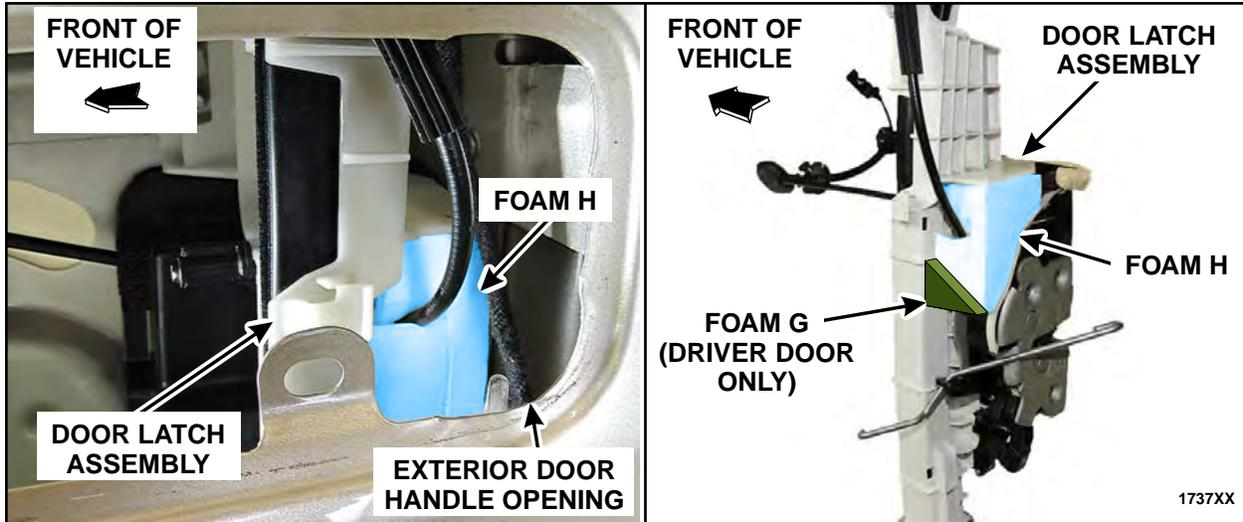

FIGURE 32
2. Install Foam H onto the driver door latch. See Figure 32.